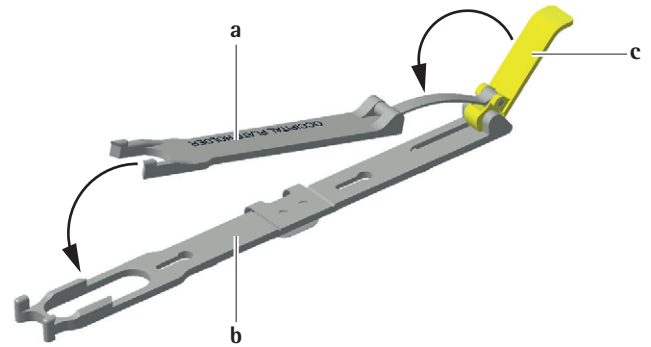

Fig. 24
- ▶ Put the upper part **a** of the plate holder back down and align it to the lower part **b**, see Fig. 24.